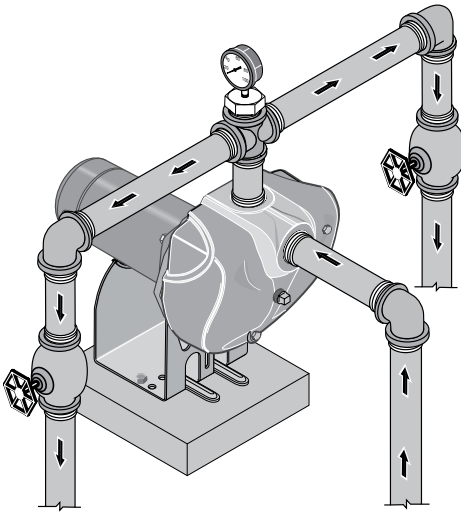

Figure 3: Multiple Discharge
Pump discharge can be divided to supply two (2) or more sprinkler systems. A suggested multiple discharge to service is shown in Figure 3.